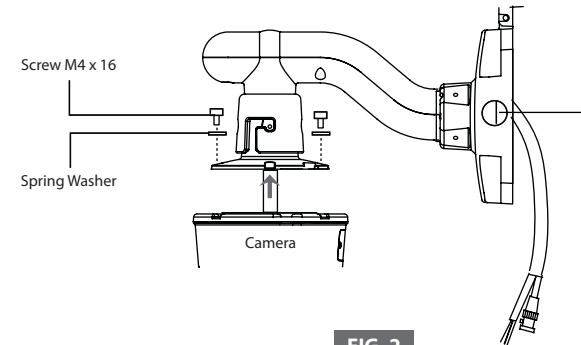

FIG. 2
2. Connect the Camera to Wall Mount Bracket with 4 pieces of M4\*16 screws and Spring Washer. (FIG. 2)